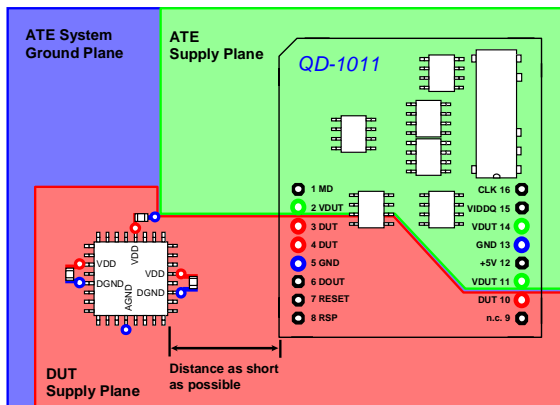
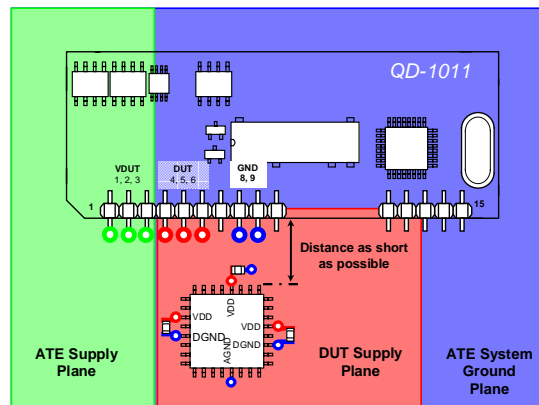

Figure 6. Recommended layout for QD-Ax packages
Figure 7. Recommended layout for QD-Bx packages
Figures 6 and 7 show the recommended layout, focussing on DUT supply and ground connections. Figure 6 shows the recommended layout for QD-Ax package types. Figure 7 shows the recommended layout for QD-Bx package types.
- For QD-Ax packages, VDUT pin 2 and DUT pin 3 are the main supply pins with lowest parasitics. These pins should be connected as close as possible to the DUT to maximise the instrument performance, see figure 6. Preferably these pins are connected using a plane. This recommendation is also applicable for QD-Bx packages for pins number 3 and 4.
- The value of the on-pin decoupling capacitance (CL) is preferable in the 100nF – 1µF range, higher values can be handled but increase the instrument's susceptibility to external noise.
(1) By default, the logic high level is VCC. Upon request, the logic high level can be linked to VDUT or an "open drain" output can be provided allowing the QD-1011 to interface to any logic voltage scheme using an external pull-up resistor.
(2) For proper operation, VCC must be able to provide a 500mA start-up (peak) current required by the DC-DC converter during power-up of the instrument. After power-up, the current required by the QD-1011 is typically 200mA.
(3) The QD-1011 is reset when a low level is present on the RESET pin for more than 50ns. A QD-1011 reset takes maximum 15ms starting from the rising edge of the reset signal, during this reset period no instrument communication should occur.
(4) There is no requirement to connect the reset pin for normal operation of the QD-1011. This pin can be left floating.
(5) A pass/fail flag at the DOUT output indicates the pass/fail result of the measurement (logic '1' = pass, logic '0' = fail).
(6) For optimal performance of the QD-1011 instrument, both the GND pins must be connected to the same ground level as the DUT supply being monitored. Preferably these pins are connected using a ground plane.
(7) Although both the multiple VDUT pins and multiple DUT pins are connected internally, the individual pins have different parasitic serial inductance and resistance. The main pins have the lowest parasitics, because the Current Bypass Unit is connected directly between these pins. Therefore, optimal performance is reached when the QD-1011 instrument's position is such that the main supply pins 2 and 3 are as close as possible to DUT, see figure 6.
(8) The VDUT pin must be permanently connected to a voltage source and must not be left floating.
(9) This pin is pulled up internally, no external pull-up resistor is required.
(10) This pin is pulled down internally, no external pull-down resistor is required.
- (1) By default, the logic high level is VCC. Upon request, the logic high level can be linked to VDUT or an "open drain" output can be provided allowing the QD-1011 to interface to any logic voltage scheme using an external pull-up resistor.
- (2) For proper operation, VCC must be able to provide a 500mA start-up (peak) current required by the DC-DC converter during power-up of the instrument. After power-up, the current required by the QD-1011 is typically 200mA.
- (3) The QD-1011 is reset when a low level is present on the RESET pin for more than 50ns. A QD-1011 reset takes maximum 15ms starting from the rising edge of the reset signal, during this reset period no instrument communication should occur.
- (4) There is no requirement to connect the reset pin for normal operation of the QD-1011. This pin can be left floating.
- (5) A pass/fail flag at the DOUT output indicates the pass/fail result of the measurement (logic '1' = pass, logic '0' = fail).
- (6) For optimal performance of the QD-1011 instrument, both GND pins must be connected to the same ground level as the DUT supply being monitored. Preferably these pins are connected using a ground plane.
- (7) Although both the multiple VDUT pins and multiple DUT pins are connected internally, the individual pins have different parasitic serial inductance and resistance. The main pins have the lowest parasitics, because the Current Bypass Unit is connected directly between these pins. Therefore, optimal performance is reached when the QD-1011 instrument's position is such that the main supply pins 3 and 4 are as close as possible to DUT as shown in figure 7.
- (8) The VDUT pin must be permanently connected to a voltage source and must not be left floating.
- (9) This pin is pulled up internally, no external pull-up resistor is required.
- (10) This pin is pulled down internally, no external pull-down resistor is required.